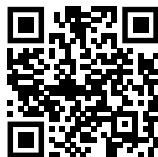

Fig. 62
► Åbn Liebherr SmartMonitoring Dashboard. (se Fig. 62)